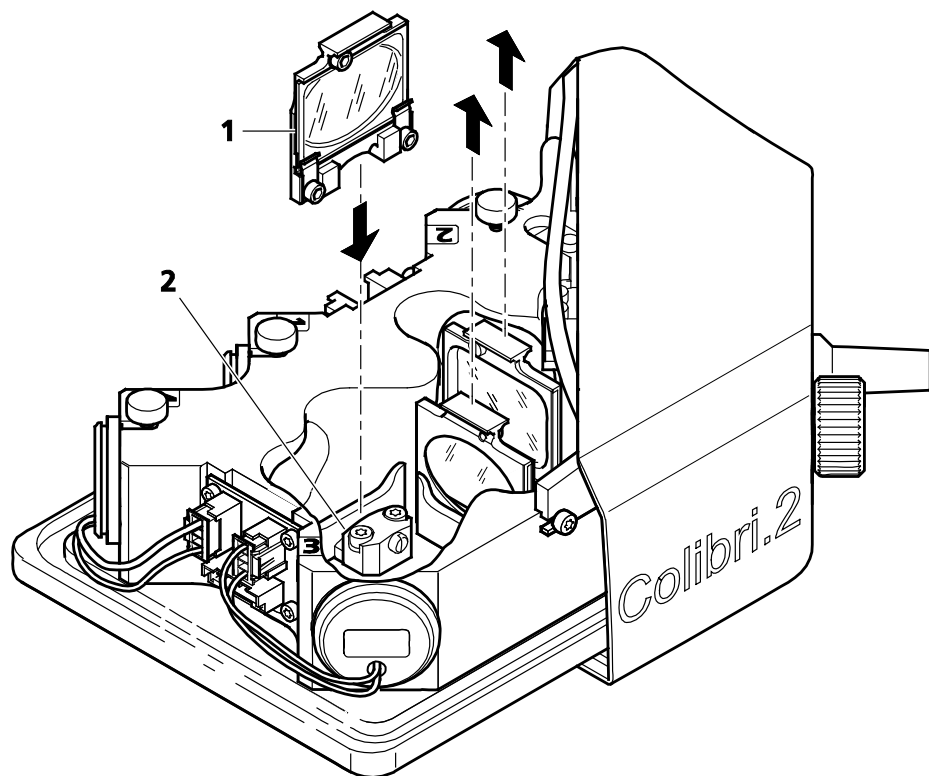

Fig. 5-4 Changing a mounting frame with beam combiner
- Hold the mounting frame (Fig. 5-4/1) by the grip and insert it from above into the corresponding seat (Fig. 5-4/2) of the lamp module until it locks in place (point of pressure). Avoid tilting the mounting frame to prevent damage.